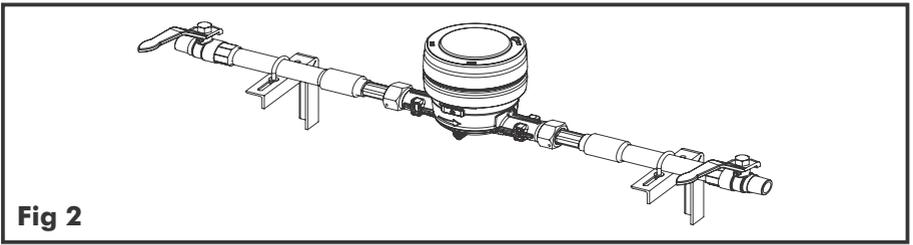

Fig 2
- In general, install the meter horizontally in the line to obtain optimum performance as shown in Fig 2. Volumetric meters may also be installed vertically or at an incline.